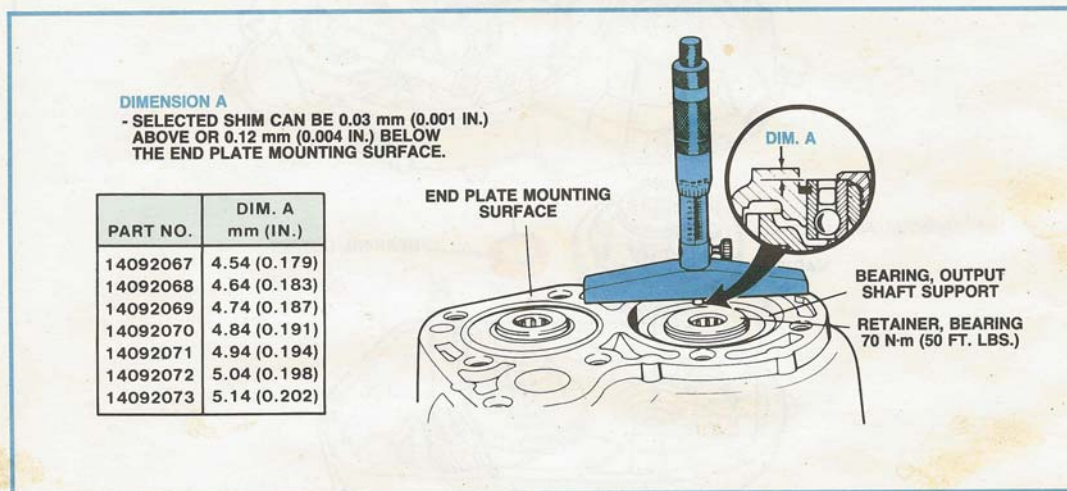

Figure 5-29, Output Shaft Support Bearing Selective Shim Procedure.
See Figure 5-29 ...
2. Select shim from Chart (Figure 5-29).